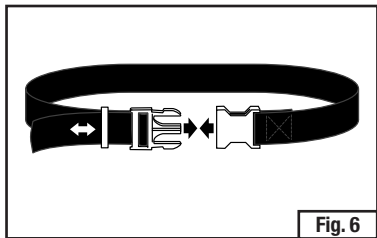

Fig. 6
3. Place the belt around the waist and adjust for size and comfort (Fig. 6).